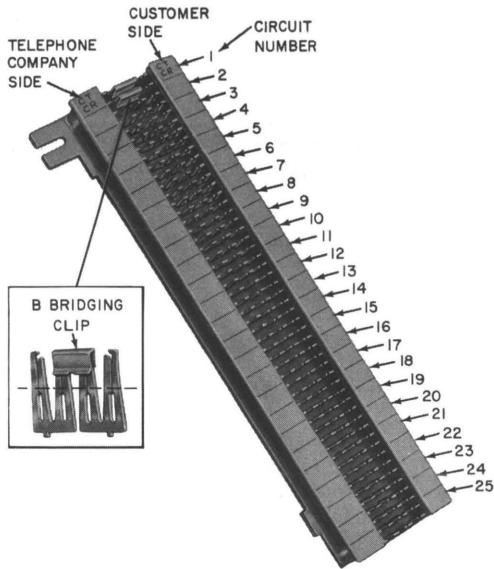

Fig. 3—Typical Interface Connecting Block
- Block, Connecting, 66M1-50 (Fig. 3).